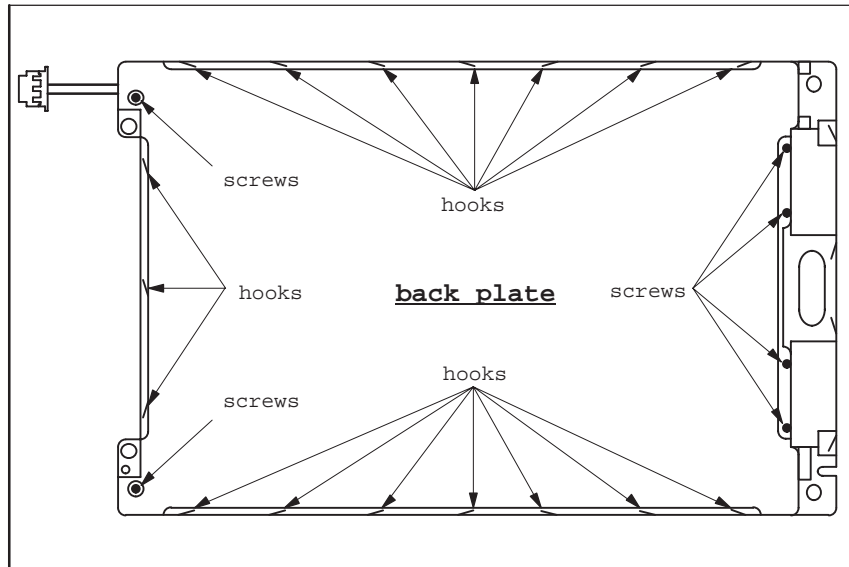

Figure 1-15 Removing the Screws and Metal Hooks
- Align the 17 metal lugs (3 at the left, 7 on top, 7 on bottom - see Figure 1-15).
- Remove the 6 screws as shown in Figure 1-15 (2 left, 4 right).